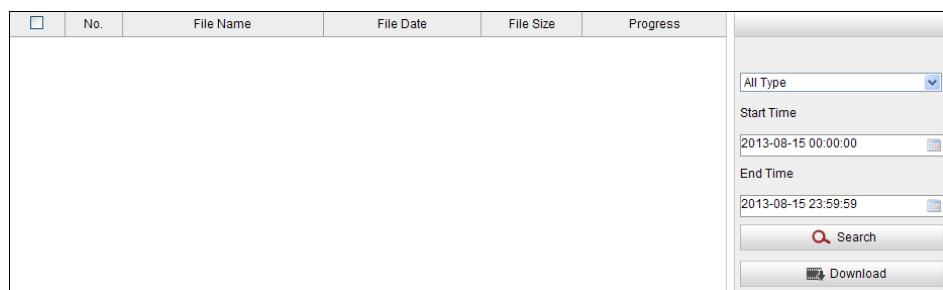

Figure 9-7 Video Downloading interface
1. Click on the playback interface. The pop-up menu is shown in Figure 9-7.